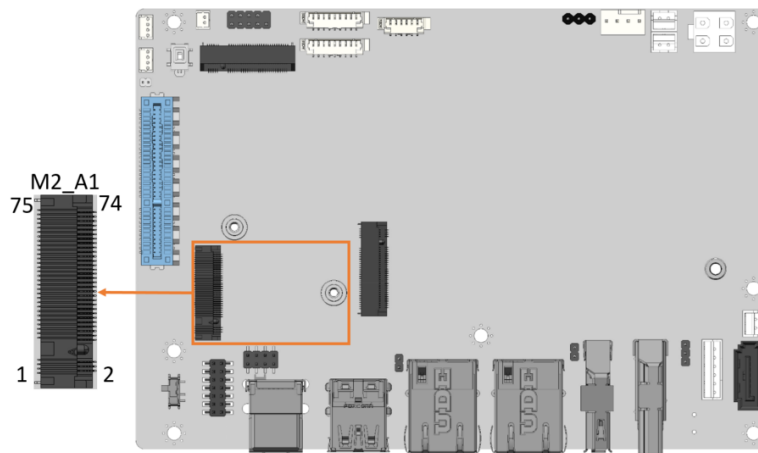

Figure 3-20: M.2 A-key Slot Location
- CN Location:** See **Figure 3-20**